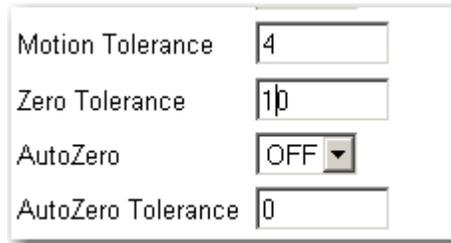

FIG. 197 INSTRUMENT SETUP/ENTERING MOTION TOLERANCE
Step 1. Click in the Motion Tolerance text field. (See Fig. 197)